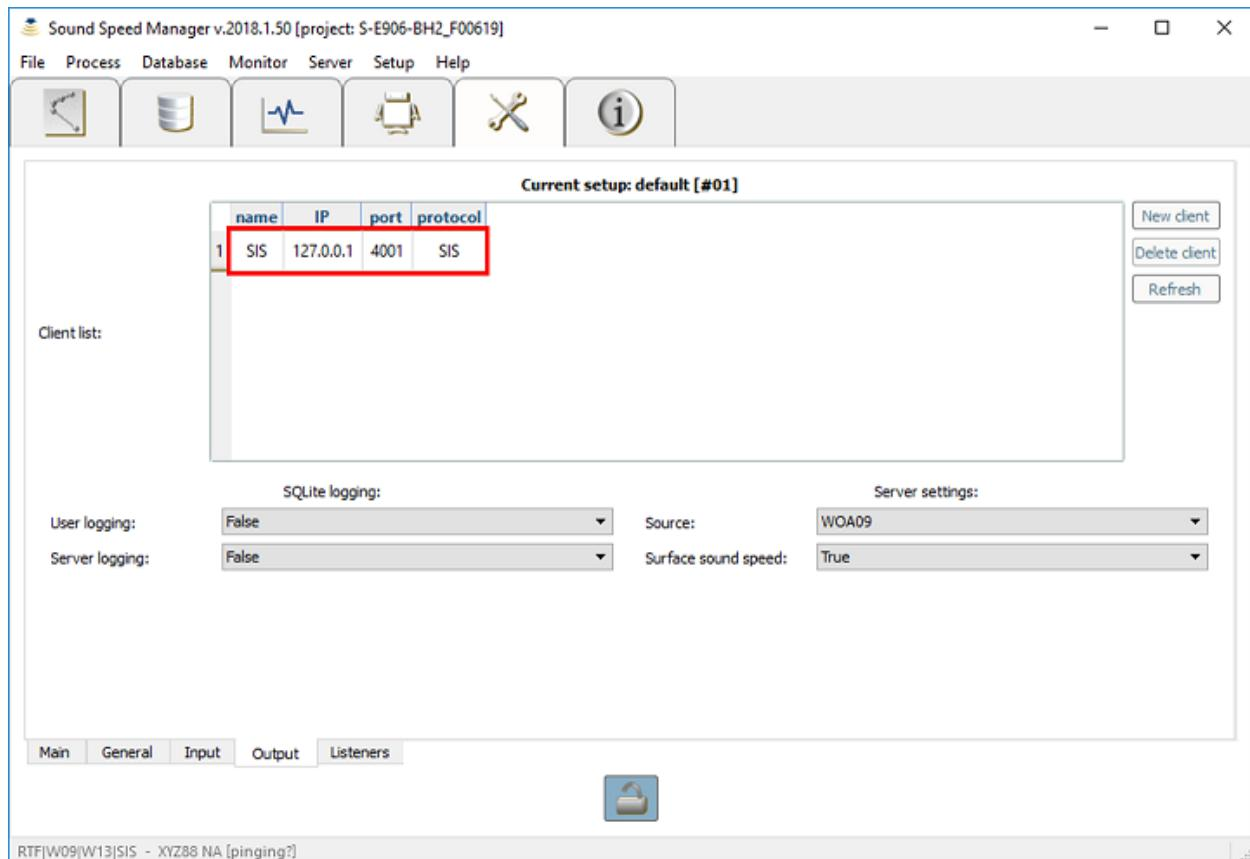

Fig. 2.7: Sound Speed Manager Setup Output dialog, with key settings in red for *Method A: Sound Speed Manager and SIS v4 Installed on the same Computer*.
- Under *Output*, you can leave the client list set to default, or create a new client with IP = 127.0.0.1, port = 4001, and protocol = SIS (see Fig. 2.7). These settings will tell Sound Speed Manager that SIS is on the same computer, and to send the CTD cast data to port 4001 (KM default).